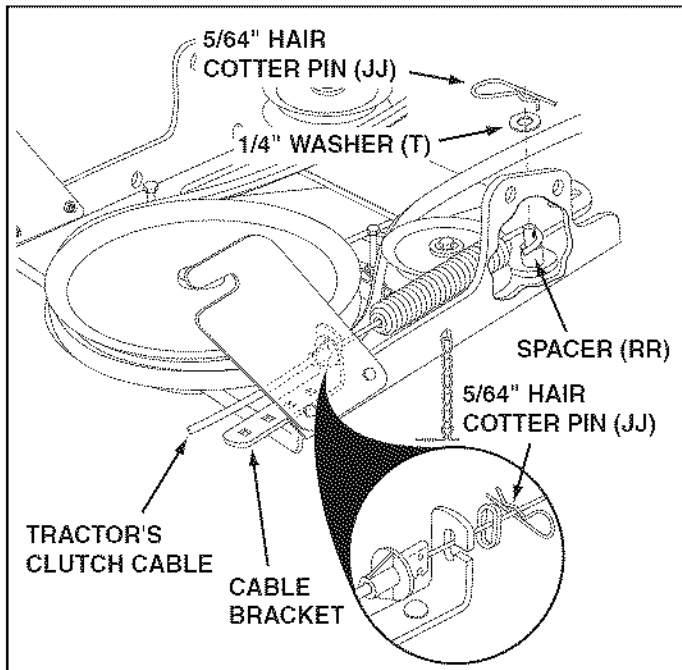

FIGURE 11
STEP 11: (SEE FIGURE 11)
- Attach the tractor's clutch cable to the cable bracket. Secure the cable housing guide (groove down) to the cable bracket using the original collar and a 5/64" hair cotter pin (JJ).
- Place a spacer (RR) on the welded pin on the idler arm. Hook the end of the clutch cable spring over the pin and secure it with a 1/4" washer (T) and a 5/64" hair cotter pin (JJ).